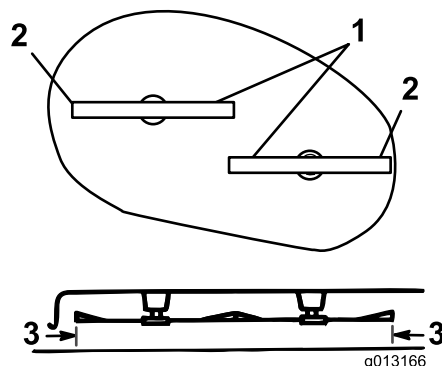

Figure 43
- Carefully rotate the blades side to side (Figure 43).
- Measure between the outside cutting edges and the flat surface (Figure 43). Ensure that the measurements are within 3 mm (1/8 inch) of each other. If they are not, go to the next step.
- Raise or lower the right side of the mower housing by turning the nuts until the distance from the outside edges of the blades to the flat surface (Figure 43) are within 3 mm (1/8 inch) of each other, and tighten the nuts on the front and rear adjustable links.